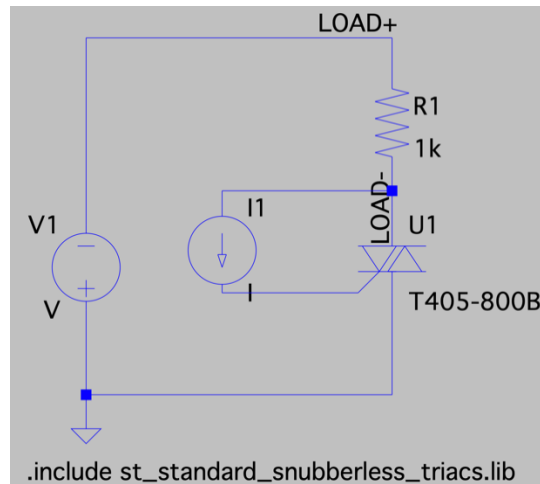

Fig. 6.4. The circuit for TRIAC Characteristic Curve (negative terminal voltages).
6. Change the circuit construction according to Fig. 6.4.